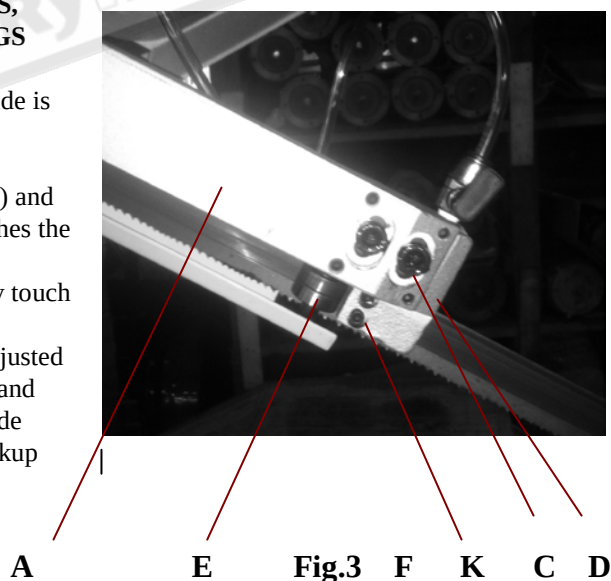
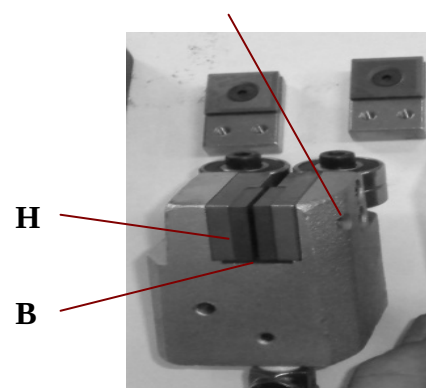

Fig.3
Fig.3-1
- 1.The back of the blade (A) (fig3) should ride against the back-up block (B) (fig3-1). To adjust, loosen set screw (C) and move the guide block (D) up or down, until it lightly touches the back of the blade .
- 2.The saw blade (A) should also ride between and lightly touch the two blade guide roller bearings (E) (fig. 3)
- 3.The carbide blade guides (H) (fig 3-1) should also be adjusted so they lightly touch the blade by loosening screw (K). and adjust the screw (F) (fig 3-1) to have right space for blade